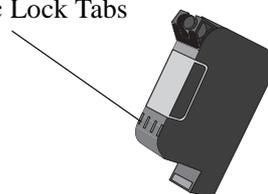

Figure 8
- 6 Break the plastic tabs of the rejected printhead either with a coin or with a tool that the customer feels more comfortable with as shown in Figure 8.